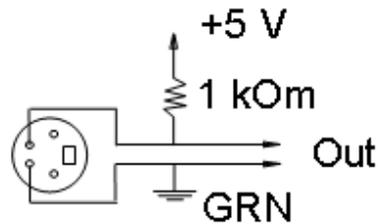

Fig. 22
11. "REM" -«EXT» - remote status connector. Output optoisolated FET switch is on during absence of optical pulse train (*Fig. 22*).